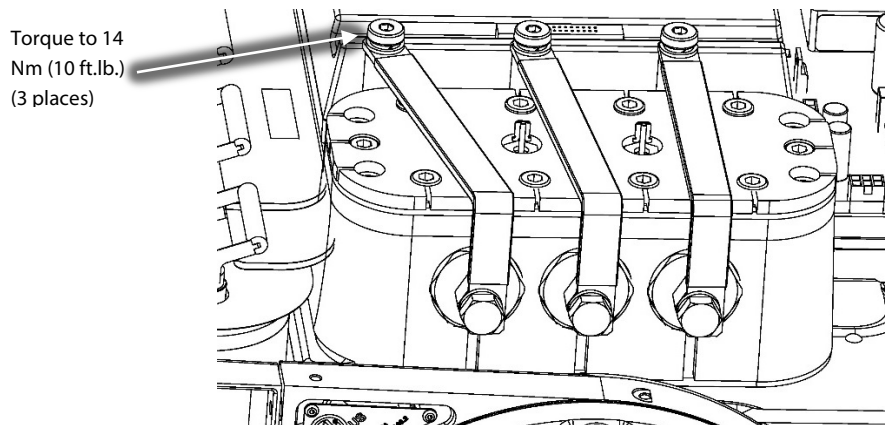

Figure 26 – Motor Bus Bar Installation
- Install the four (4) M6X35 SCR Cooling Manifold screws and torque to specification.
15. Install the three (3) copper tubes and torque the screws to specification. Refer to Figure 26 (Motor Bus Bar Installation).